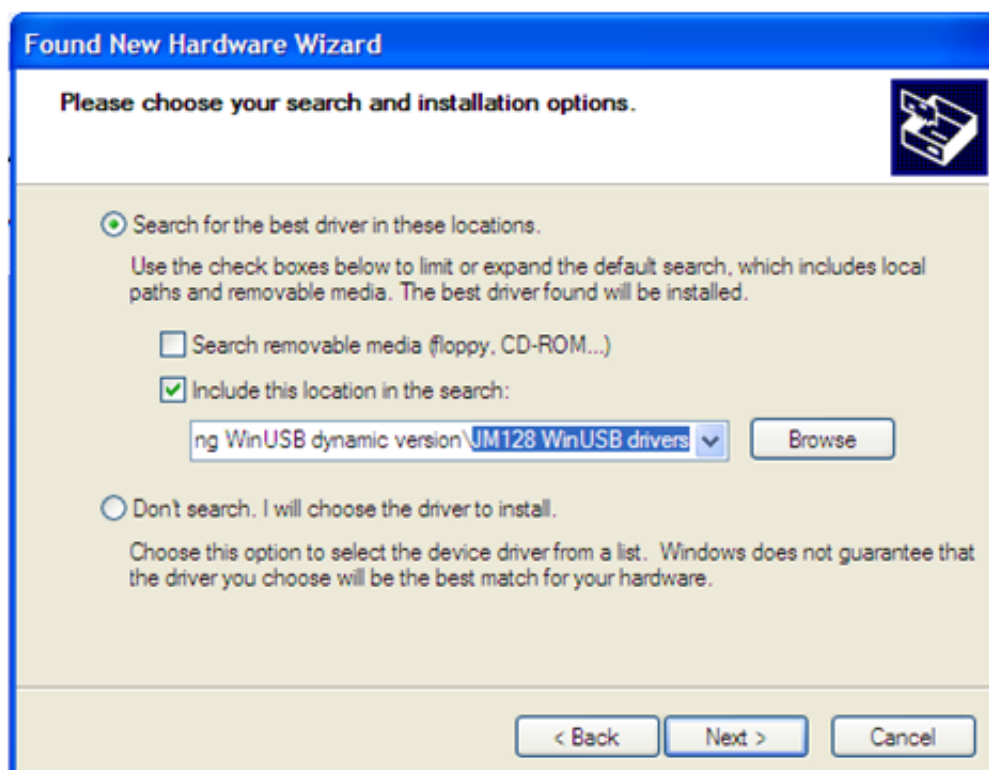
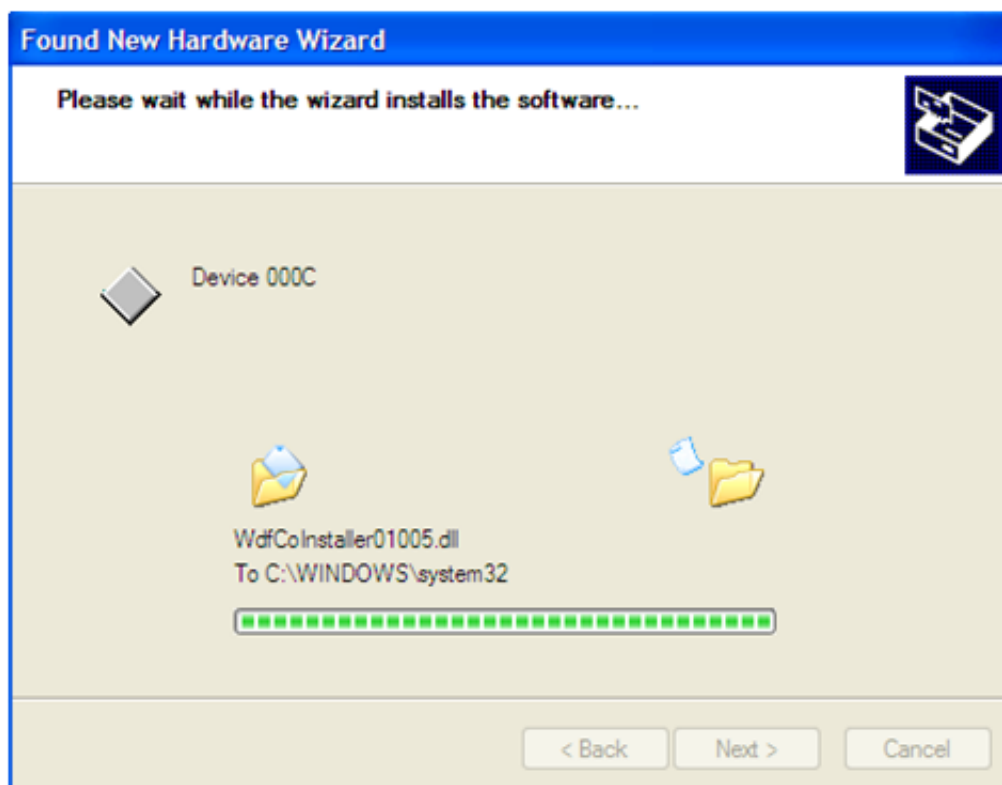

Figure 4. JM128 USB drivers are selected as the drivers for the USB device
Figure 5. USB device is installed
10. Use a customized Windows USB driver by selecting “JM128 WinUSB drivers” folder from AN4378SW.zip. Click next as shown in Figure 4. Then USB device is installed and recognized by Windows as shown in Figures 5 and 6.